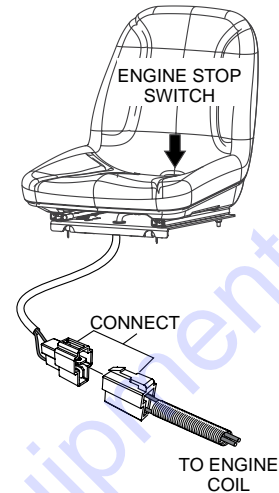

Figure 5. Engine Stop Switch (Seat)
4. Connect the "Engine Stop Switch" (seat) cable to the mating plug as shown in Figure 5